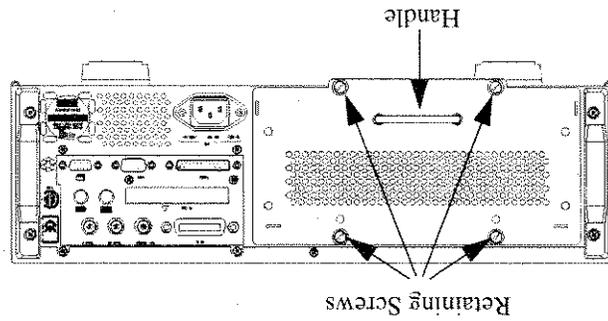

Figure 157 Back Panel of HP 8164A Lightwave Measurement System
- 1 Untighten the retaining screws, see Figure 157, that secure the module in the instrument.